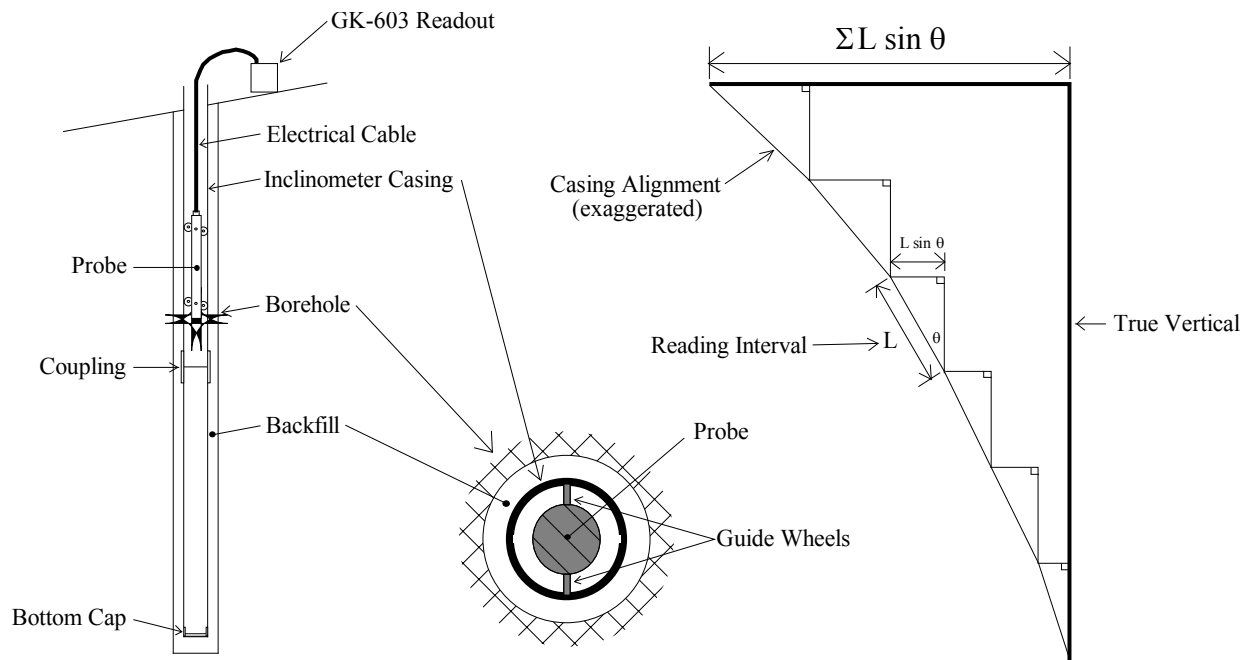

Figure 94 - Incliner Survey Description
Subsequent surveys of the inclinometer casing, when compared with the original survey, will reveal any changes of inclination of the casing and locations at which these changes are taking place. Analysis of the change of inclination is best performed by computing the horizontal offset of the upper wheels relative to the lower wheels which has produced the tilting (θ) over the reading interval (L) of the survey (usually the wheel base of the probe, two-feet for English systems, half meter for Metric). At each position of the inclinometer, the two readings taken on each axis (A+, A- and B+, B-) are subtracted from each other leaving a measure of $\text{sine}\theta$. This value is then multiplied by the reading interval (L) and the appropriate factor to output horizontal deflection in engineering units (inches for English, centimeters, or millimeters for Metric) (see Figure 94).